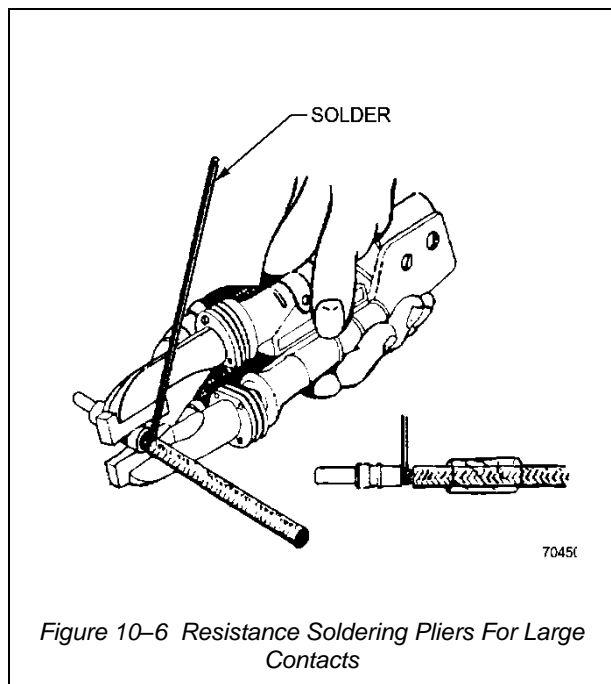

Figure 10-6 Resistance Soldering Pliers For Large Contacts
16. Resistance soldering will yield excellent results for both very large and very small contacts. Large contacts are soldered to wires by the use of resistance soldering pliers, (See Figure 10-6.) The contact, removed from insert, is held in the jaws of the pliers and current is applied until the solder in the solder well has melted: